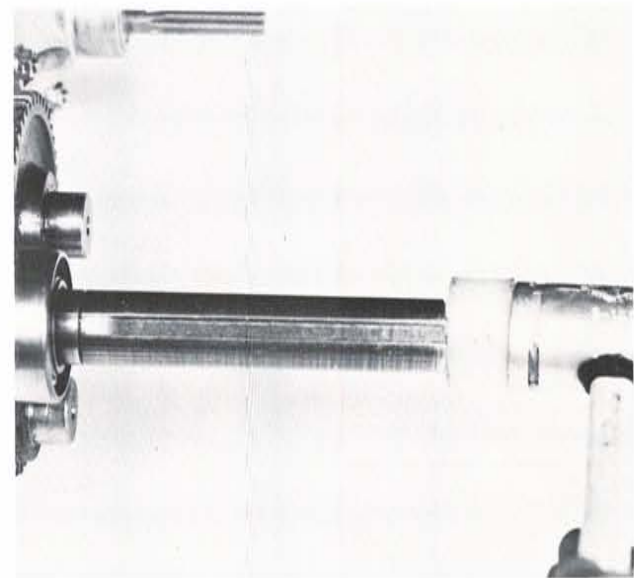

Fig 23
9. Next lightly tap input shaft into bearing until seated firmly. (Fig 23)